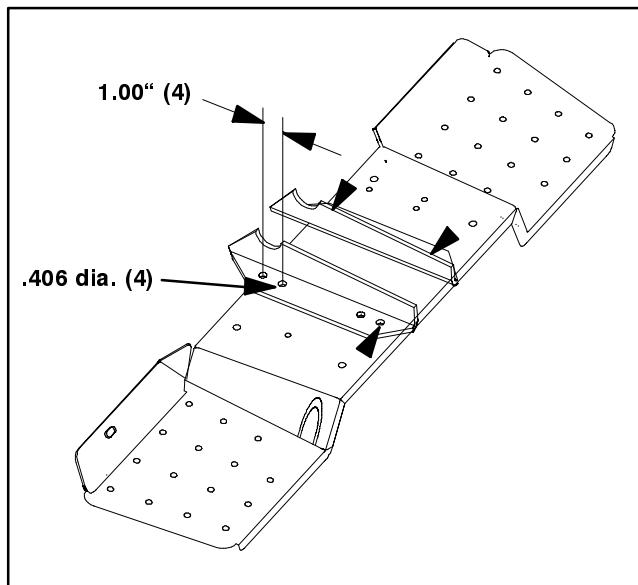

Figure 9
5. Using dimensions and locations shown in figure 9, locate, mark and drill (4) .406 dia. holes in foot step brackets.